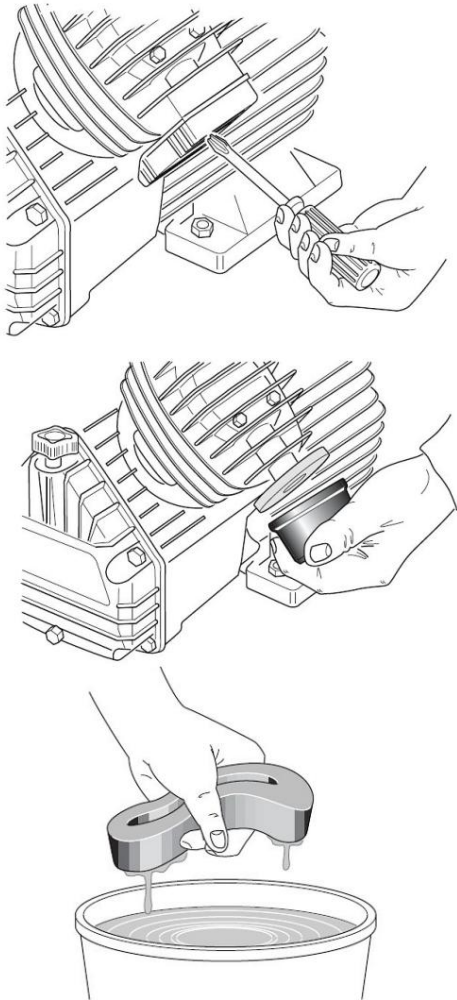

Fig. 8: Cleaning the air filter
Step 2: Remove the intake filter and replace it (if damaged) or clean the filter element (Fig. 8).